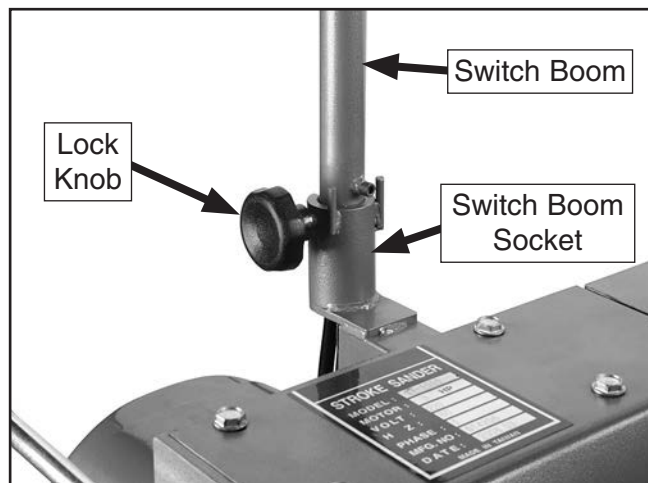

Figure 23. Switch boom.
13. Place the switch boom into the switch boom socket and secure with the lock knob, as shown in **Figure 23**.